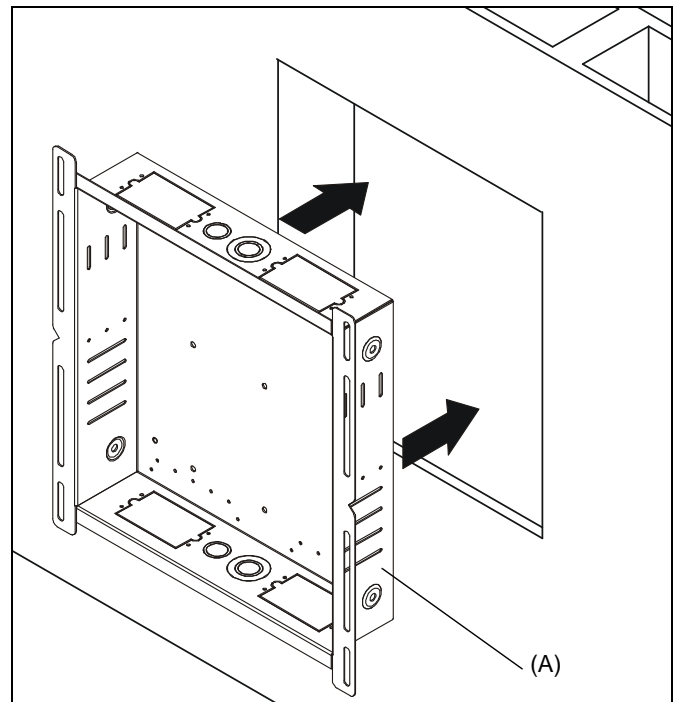

Figure 2
1. Insert PAC511 (A) into opening. (See Figure 2)